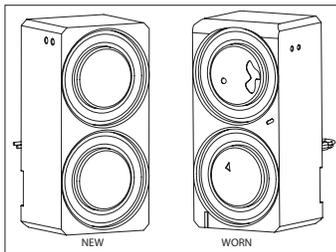

Figure 15
2. Keep bottom of magnet clean, free of chips, burrs, nicks, oil and other contaminants. Inspect magnet face to ensure surface is flat and square. A worn magnet surface dramatically reduces magnetic holding force. **(Figure 15)**